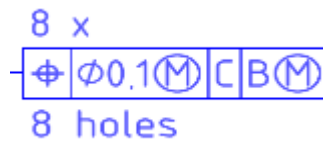

Figure 5. Geometric tolerance annotation with qualification note ('8 holes')
- The **Qualifying note** text field is the place to enter additional text for a geometric tolerance. Enter an applicable text into the text field. This text appears in the geometric tolerance annotation below the datum reference frame (in 🏠 **3D View**, see Figure 5). In case the composite geometric tolerance is created, the entered text appears on the right side of the particular tolerance.